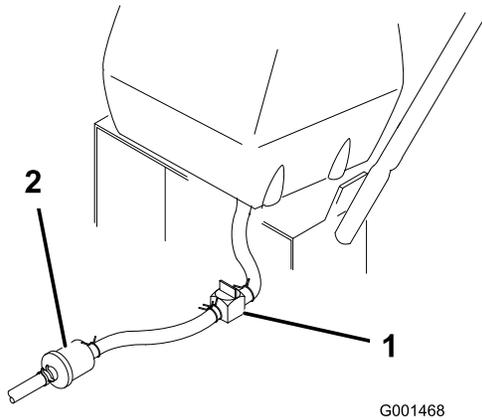

Figure 34
- Close the fuel shut-off valve at the fuel tank (Figure 34).
- Squeeze the ends of the hose clamp together and slide it up the fuel line away from fuel filter (Figure 34).
- Pull the fuel line off the fuel filter (Figure 34). Open the fuel shut-off valve and allow the gasoline to drain into a gas can or drain pan.
3. Close fuel shut-off valve at the fuel tank (Figure 34).
7. Open fuel shut-off valve at fuel tank (Figure 34).